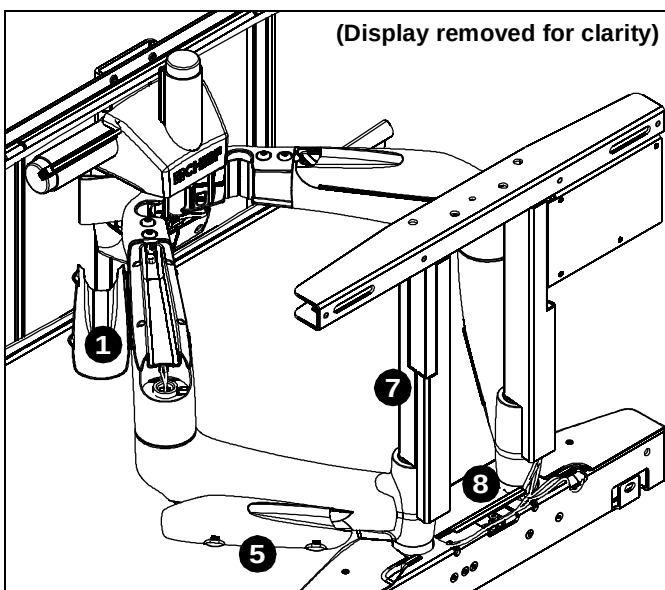
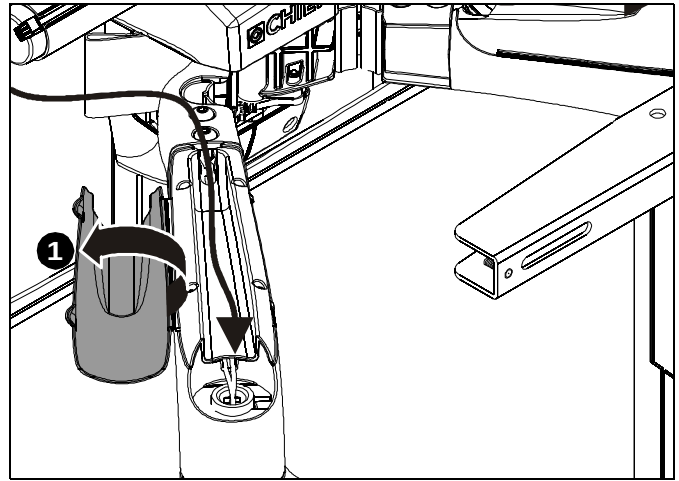
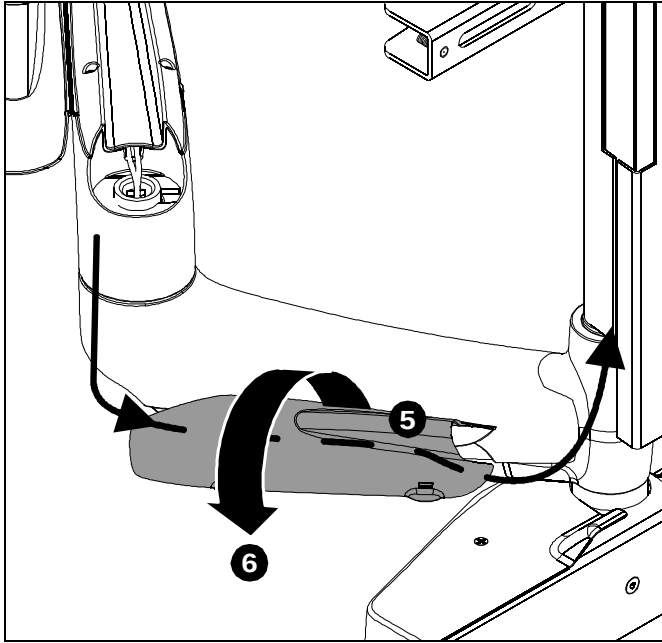
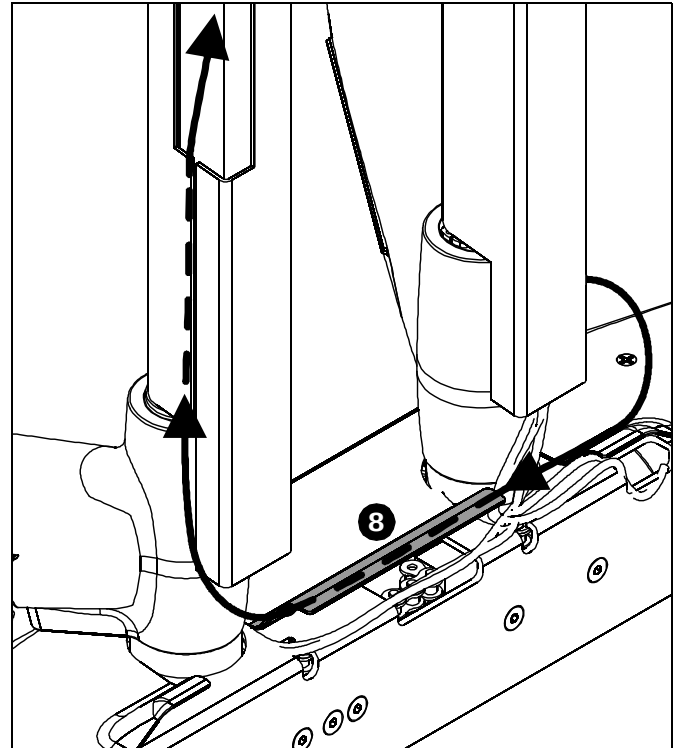

Figure 34
Figure 35
Figure 37
Figure 39
NOTE: Available points of cable management are illustrated (See Figure 34) and specifically called out in the following instructions and figures.
1. Open cable management covers on top of both PXR arms. (See Figure 34) and (See Figure 35)
5. Open cable management covers on bottom of both PXR arms and lay cables within arms. (See Figure 34) and (See Figure 37)
6. Close cable management covers, being careful to not pinch cables under covers. (See Figure 37)
8. If necessary, use cable management flap on PXR base to route cables from left arm to PXR right side. (See Figure 34) and (See Figure 39)